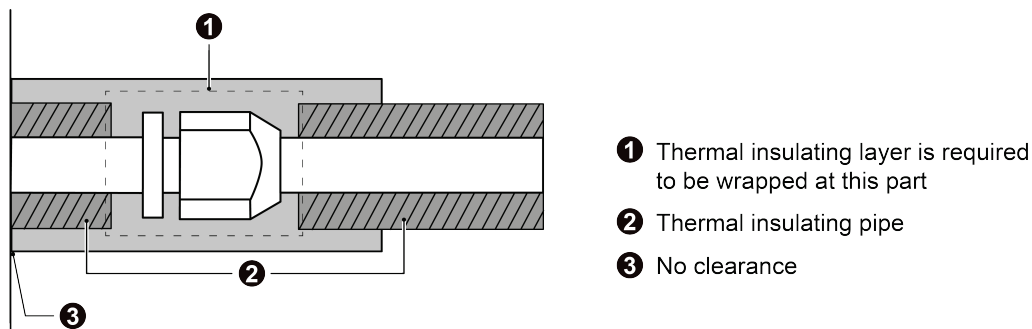

Fig.4.19
- 4) Joints of indoor and outdoor unit should be wrapped with insulating material and leave no gap between pipe and wall. See Fig.4.19.